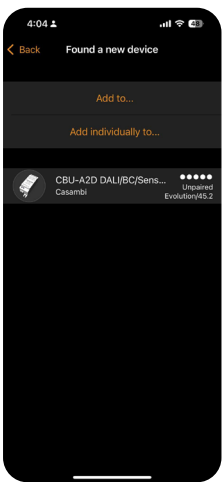

FIG. 46
4. Launch the Casambi app. The app will display a notification "**Found a new device**" when it detects the CBU-A2D dimmer. Every Casambi dimmer requires assignment to a network. From the notification screen (Fig. 46), choose either "**Add to...**" (for existing networks) or "**Add individually to...**" (to create a new separate network) based on the customer's requirements.